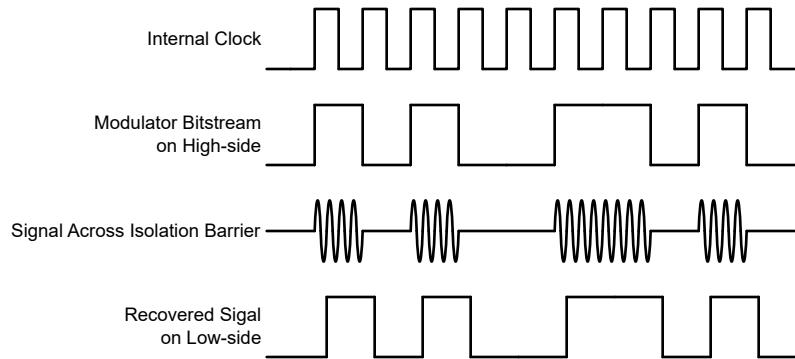

Figure 7-1. OOK-Based Modulation Scheme
The AMC1301 uses an on-off keying (OOK) modulation scheme, as shown in Figure 7-1, to transmit the modulator output bitstream across the SiO₂-based isolation barrier. The transmit driver (TX) shown in the Functional Block Diagram transmits an internally generated, high-frequency carrier across the isolation barrier to represent a digital one and does not send a signal to represent a digital zero. The nominal frequency of the carrier used inside the AMC1301 is 480 MHz.